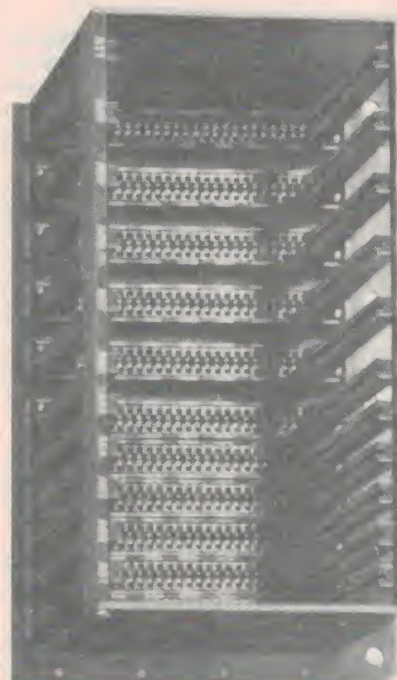

Figure 6: A typical rack assembly. Printed circuit boards can be slid in or put on the rack to maximise ease of servicing.
**Indirect edge connectors** are of the plug-&-socket variety. One mounts on the board, its pins being soldered to pads to which the connections are brought out. The mating connector mounts on the chassis in which the board is mounted, usually in a slide-in/out rack assembly. (See Figure 6) Probably the two most familiar examples are the ISEP and the G06/G60 types designed to meet the European DIN and IEC electronic packaging standards.